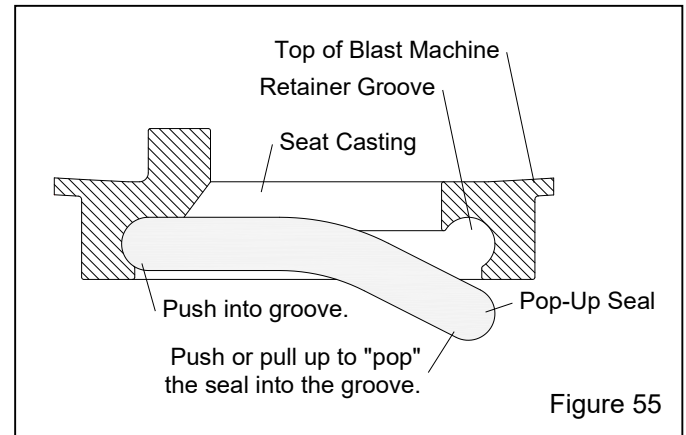

Figure 55
7.19 Pop-Up Valve Seal Replacement – Figure 55